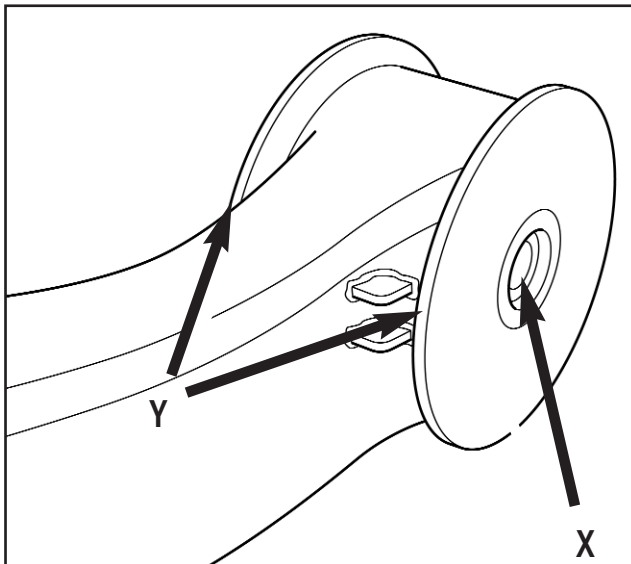

Fig 4.39
10. Insert steel inner sleeve "X" into the pivot bush central tube. Fit the replacement wear washers "Y" to either side of the pivot bush (Fig 4.39).